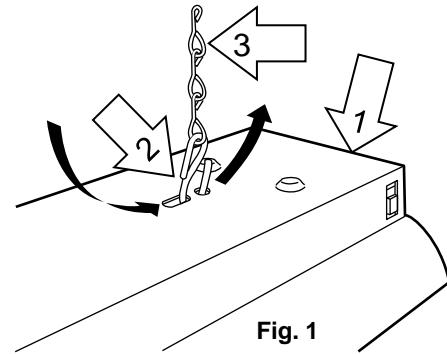

Fig. 1
1. Attach the small loop of each "S" HOOK (2) to the end of each SUPPORT CHAIN (3). Feed the large loop of each "S" HOOK (2) through the holes provided at each end of the CHANNEL (1). Close both ends of each "S" HOOK (2) using pliers. (Fig. 1)
2. Select the desired installation location. Be sure that a standard 120 V – 60 Hz outlet is located within reach of the fixture's power cord. Install two hooks (not included) on the desired location of the ceiling. Be sure to install the ceiling hooks no more than fixture length apart. Install the fixture to the ceiling by looping the remaining ends of each SUPPORT CHAIN (3) to each ceiling-installed hook.
3. To install the tube lamps, guide the pins on one end of the lamp into one socket (4). Guide the other end of the tube into the opposite socket (4). Rotate the tube 90° (1/4 turn) in either direction until seated. Be sure to use the correct type and wattage lamps, which are specified on the provided label on the fixture.